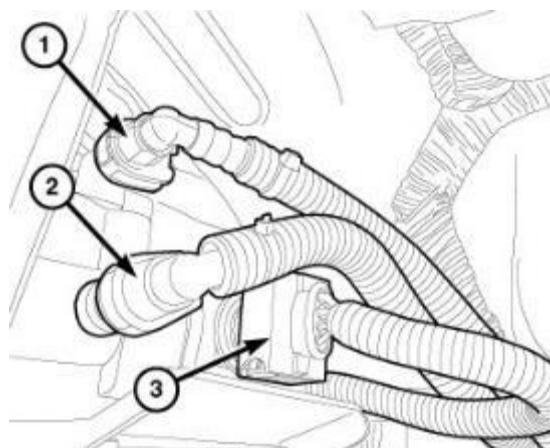

Figure 23 - Inlet and Outlet Lines
- 57. Disconnect the fuel filter/water separator outlet fuel line (1) (Figure 23).
- 58. Disconnect the fuel filter/water separator inlet fuel line (2) (Figure 23).
- 59. Disconnect the combination fuel heater/temperature sensor wire harness connector (3) (Figure 23).
74. Connect the combination fuel heater/temperature sensor wire harness connector (3) (Figure 23).
75. Connect the fuel filter/water separator inlet fuel line (2) (Figure 23).
76. Connect the fuel filter/water separator outlet fuel line (1) (Figure 23).